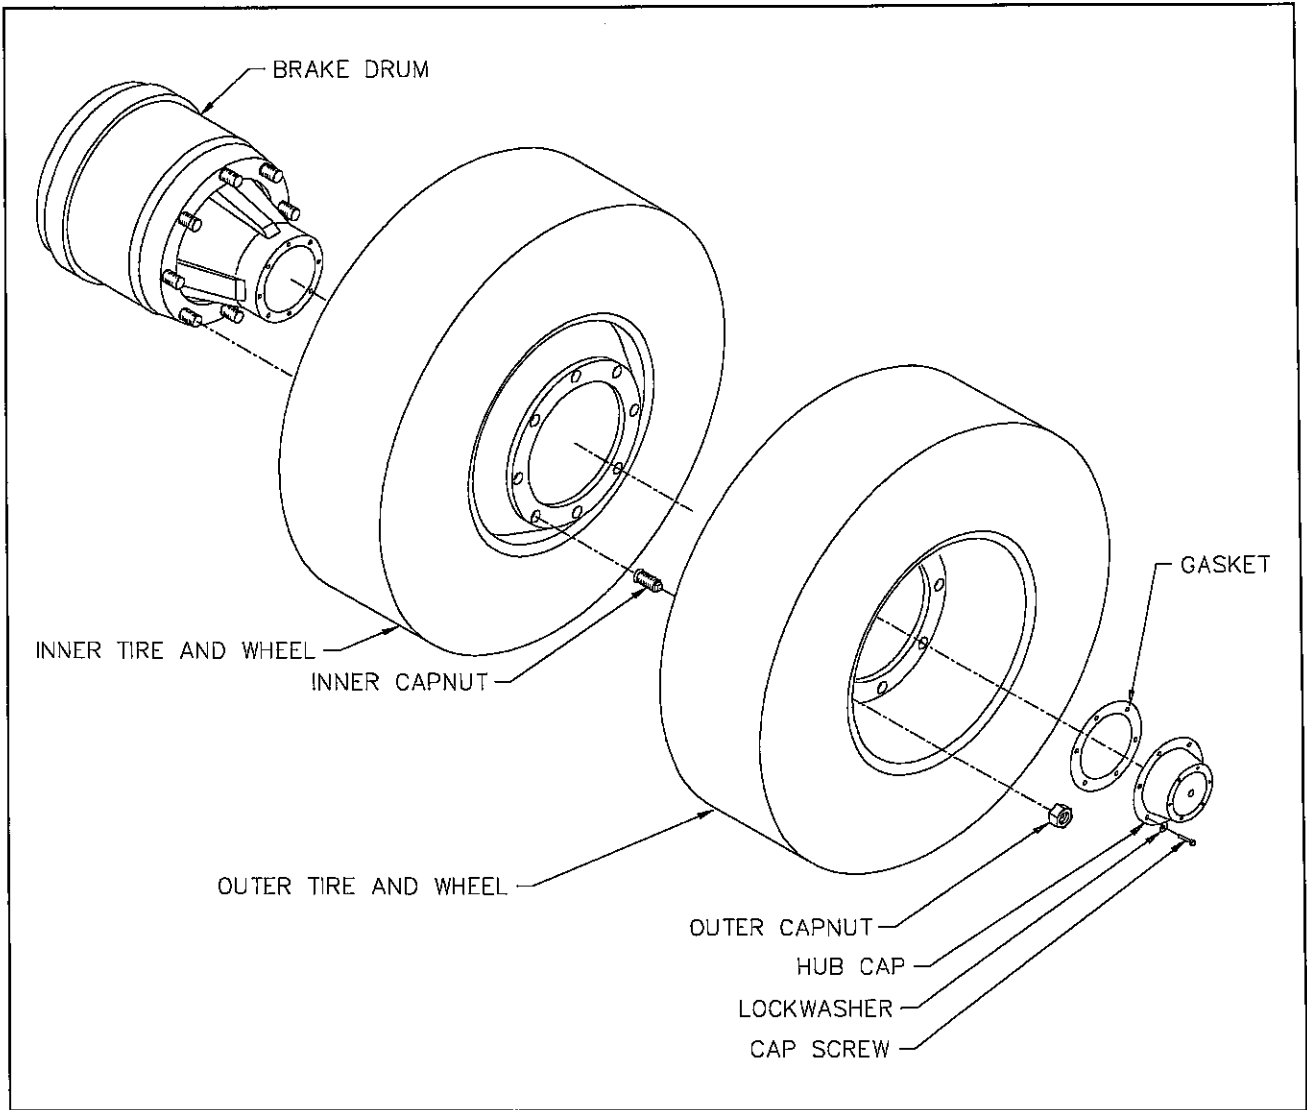

Figure 4-18 Mounting Tires and Wheels
b. Straight Edge or String Method: (This method can not be used if tire and wheel assemblies are not mounted on the axle.) Jack semitrailer up until the wheels are off of the ground. Hold a straight edge against the tires of both ends of an axle. A gap at one tire indicates a smaller tire. A maximum of $1/8$ " gap is allowed (See **Figure 4-18**).